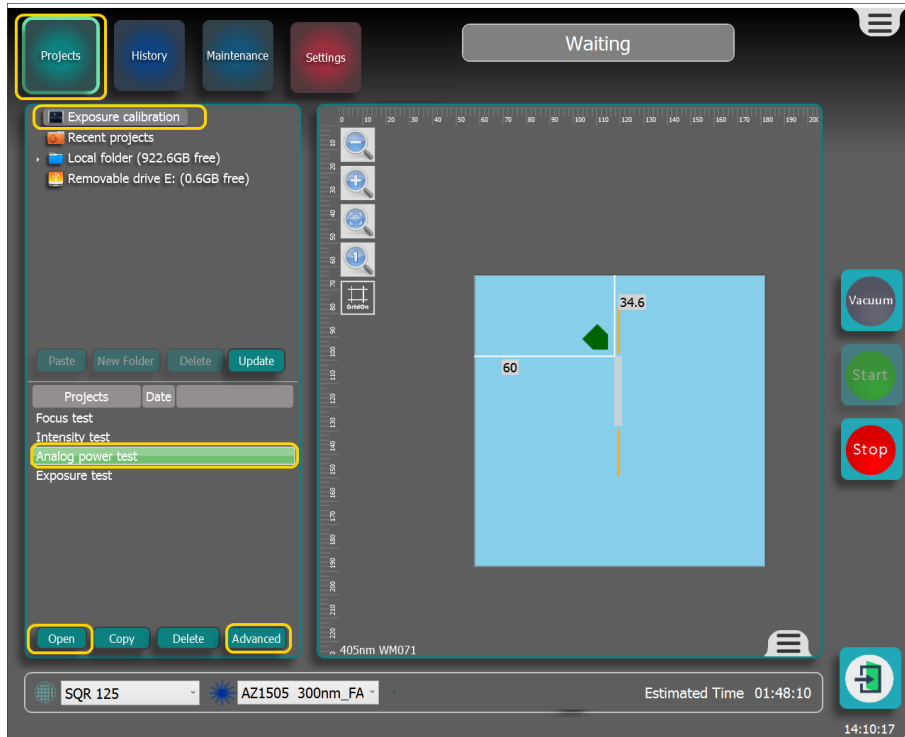

Figure 3-72 Starting the Analog Power Test
2. To start the Analog Power Test, select **Projects**, see **Figure 3-72 on the next page**.